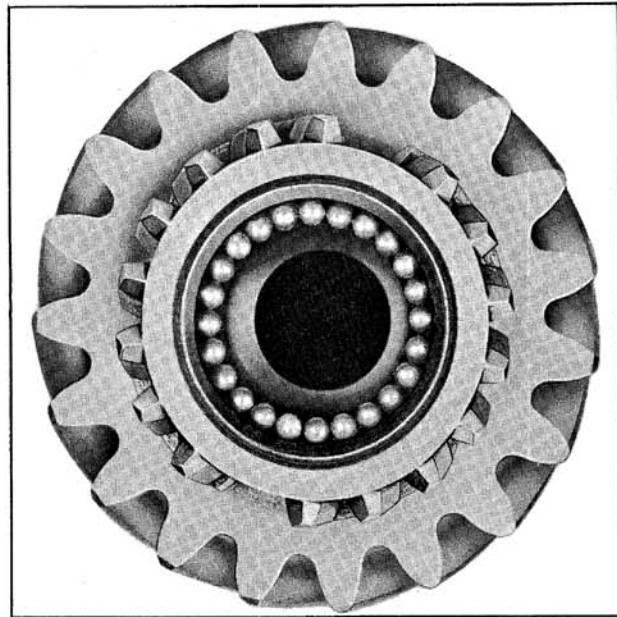

Fig. 7-19 Mainshaft Pilot Roller Bearings
5. Place some grease in the mainshaft pilot hole in the clutch gear and install the roller bearings. (Fig. 7-19) Install the 14 group and